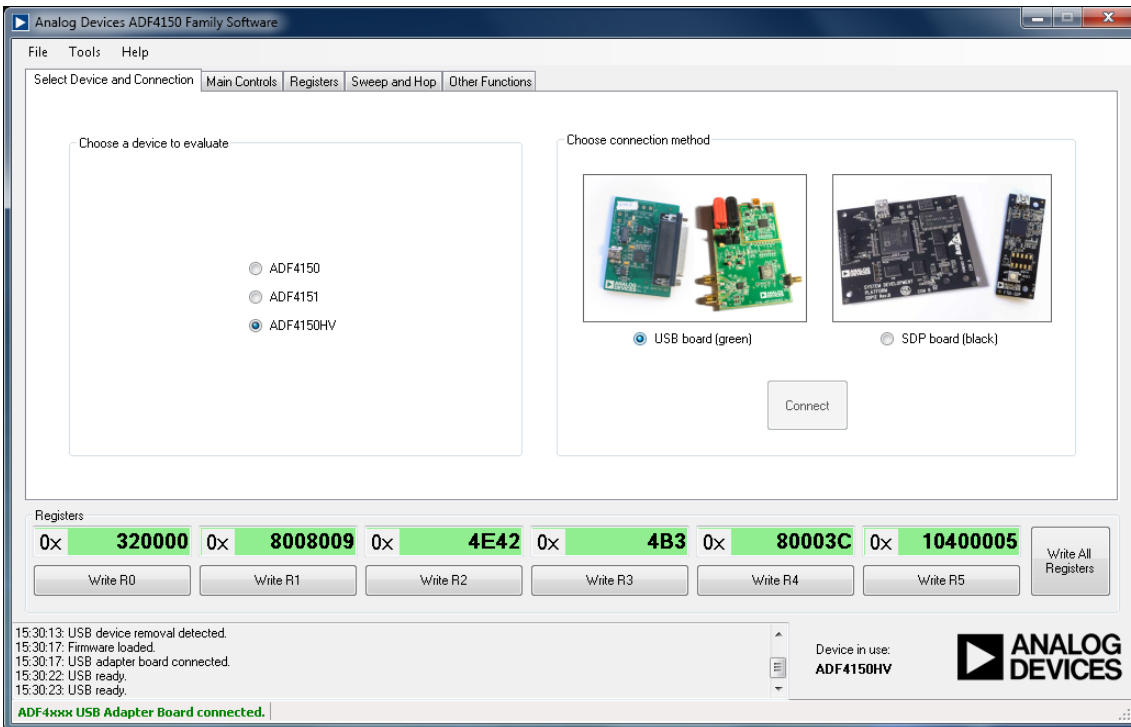

Figure 5. Software Front Panel Display—Select Device and Connection
2. On the **Select Device and Connection** tab, choose **ADF4150HV** and **USB board (green)**, and then click **Connect** (Figure 5).
3. Confirm that **ADF4xxx USB Adapter Board connected** is displayed at the bottom left of the window (see Figure 5). Otherwise, the software has no connection to the evaluation board. Note that when connecting the board, it takes about 5 sec to 10 sec for the status label to change.